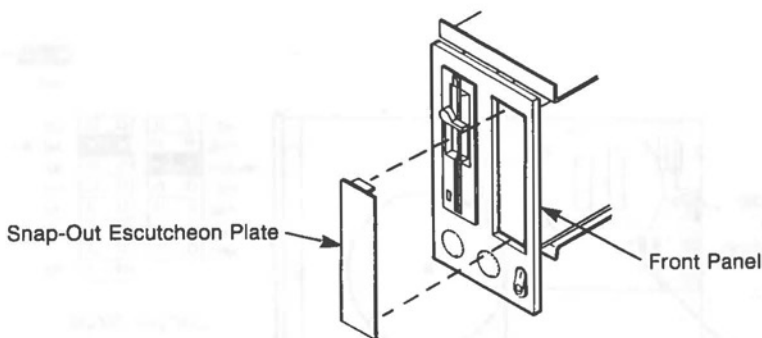

Figure 3-31 Face Plate Removal
2. If you are adding a drive to an empty slot, remove the snap-out face plate (escutcheon) from the drive slot front (see Figure 3-31).